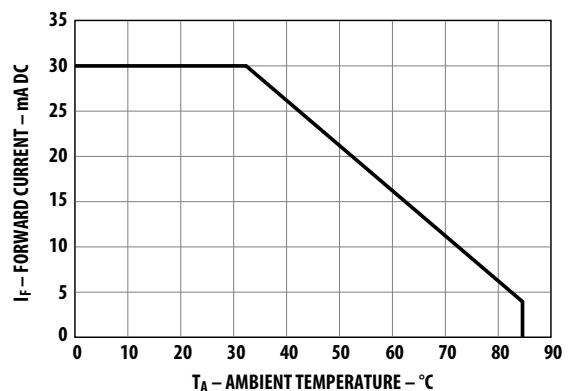

Figure 4. Maximum forward current vs. ambient temperature based on  $T_j \text{ max.} = 115^\circ\text{C}$
2. Derate linearly as shown in Figure 4.